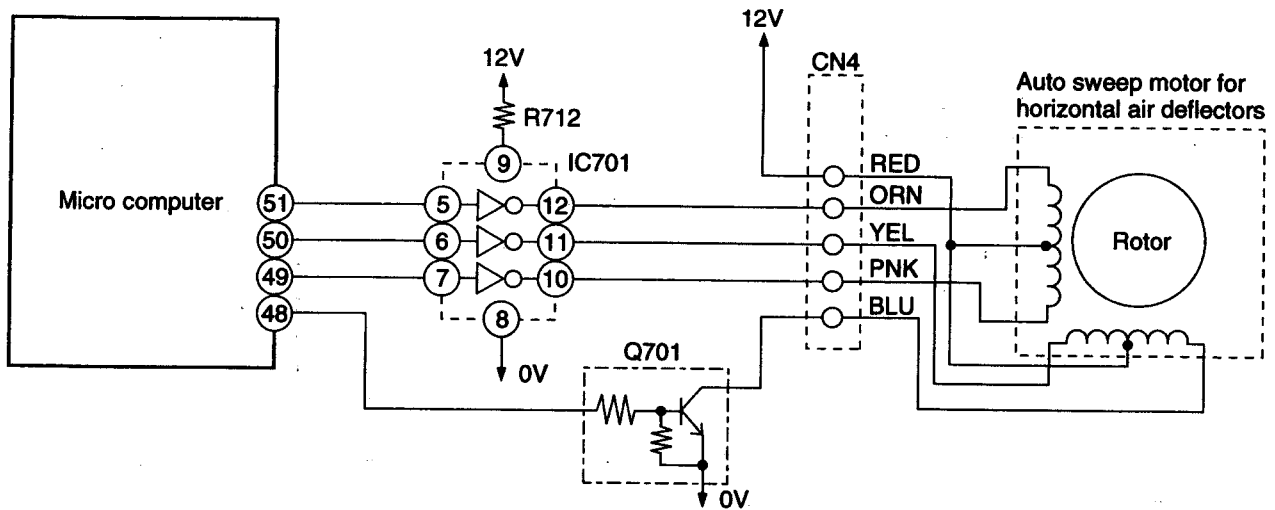

Fig. 4-1 Auto Sweep Motor Circuit (Horizontal air deflectors)
- Fig.4-1 shows the Auto sweep motor drive circuit; the signals shown in Fig.4-2 are output from pins ④⑧ - ⑤① of the micro computer.